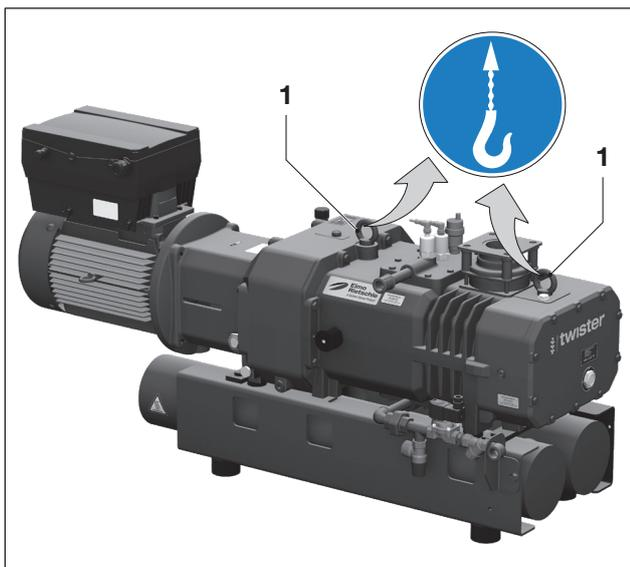

Fig. 1 Lifting and transporting
- a) Tighten the eyebolts (fig. 1/1) firmly.